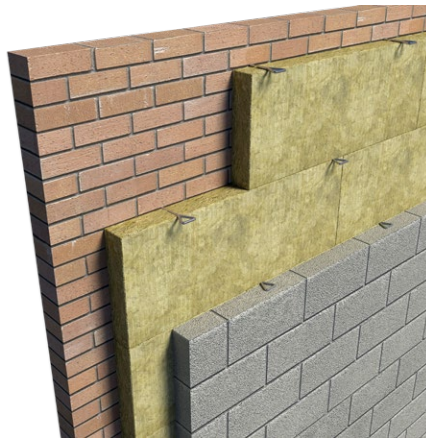

Figure 2
5. Cavity trays should incorporate stop ends, have weep holes at approximately 450mm centres (or a maximum of 900mm centres) and be continuous across closely spaced openings (Figure 2).
4. Before installing each course of batts, excess mortar must be removed from the inside face of the leading leaf, and mortar droppings cleaned from the exposed edges of the batts. This is made easier by the use of a cavity board (Figure 2). This sequence should be maintained progressively until it reaches the wall plate or cavity tray. It is important for the insulation to be carried to the highest level possible (Figure 5).